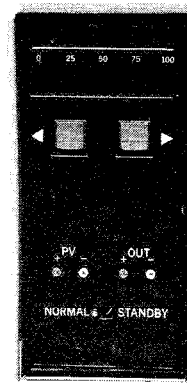

Fig. 8.13
- (2) Direct the standby manual unit to its front. Hang the bottom latch of the standby manual unit onto the latch hole at the bottom end of the casing. The instrument can be operated in the manual mode in a setup as shown in Fig. 8.13.